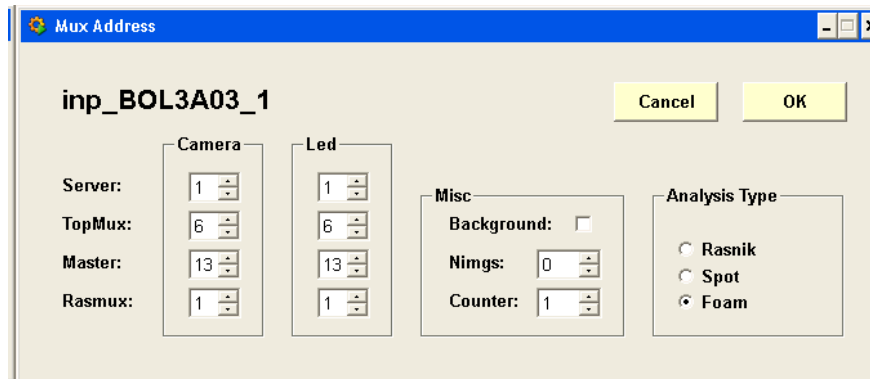

Figure 2.9: Main Parameter panel
12. *Main*: This panel, entitled confusingly Mux Address, is shown in Figure 2.9. It contains the most sensitive parameters, in particular the Camera and Led address. Also the *Analysis Type* should be handled with great prudence. Only the 'real' experts should consult this panel.